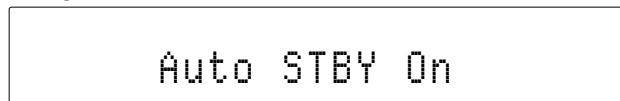

Figure 46
3. To re-activate the Auto Off Feature, press and hold in the Power Push-button on the Remote Control for about 5-10 seconds, at which time the Front Panel Display indicates "Auto STBY On". Refer to figure 46.